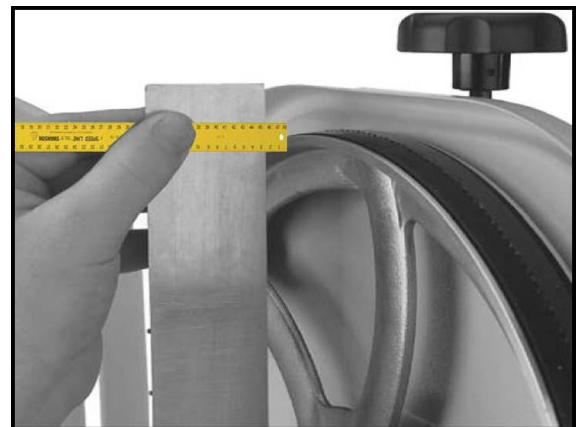

Figure 13
3. Take a straightedge and place it on both rims of the wheel that does not require adjustment and then measure the distance away from the other wheel using a ruler. See Figure 13 below. The distance measured with the ruler is the amount the wheel needs to be shimmed.